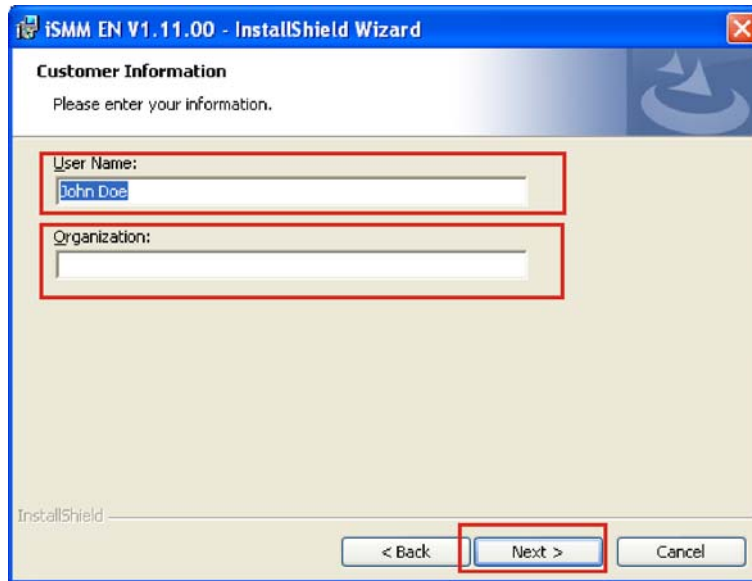

Figure 7-33: iSMM Customer Information
Step 12: The **Customer Information** screen appears.(Figure 7-33)
Step 13: Fill in the “User Name” and “Organization” fields, which will be automatically filled with the settings for the current user.(Figure 7-33)
Step 14: Click **Next** to continue.(Figure 7-33)